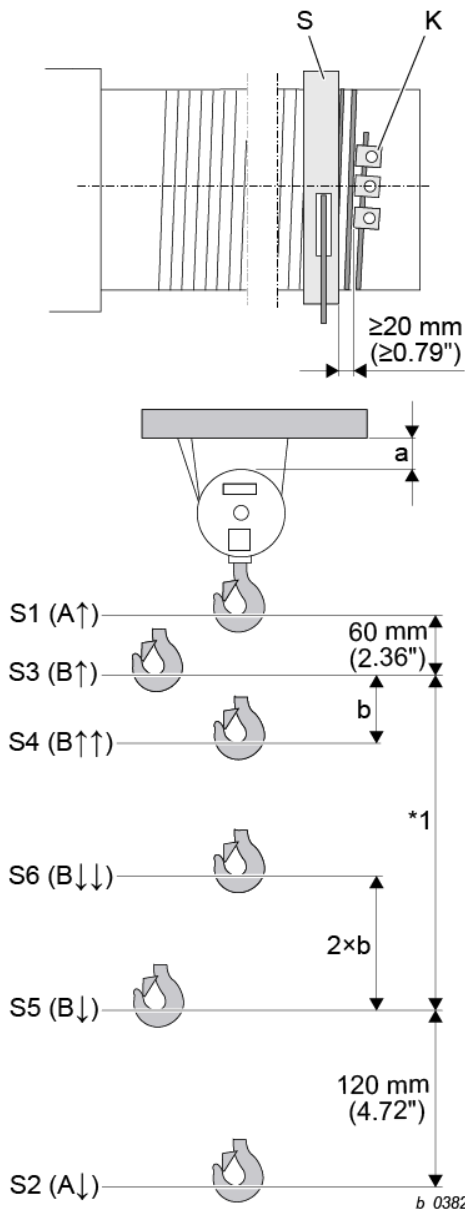

Fig. 82
1. Lower bottom hook block to **0.39 in.** above desired hook position, if necessary turn setscrew (S5) to the left beforehand. Observe minimum clearance, see Fig. 82.
1. Lift bottom hook block by **2xb**, see Fig. 82, Tab. 35+Tab. 36.